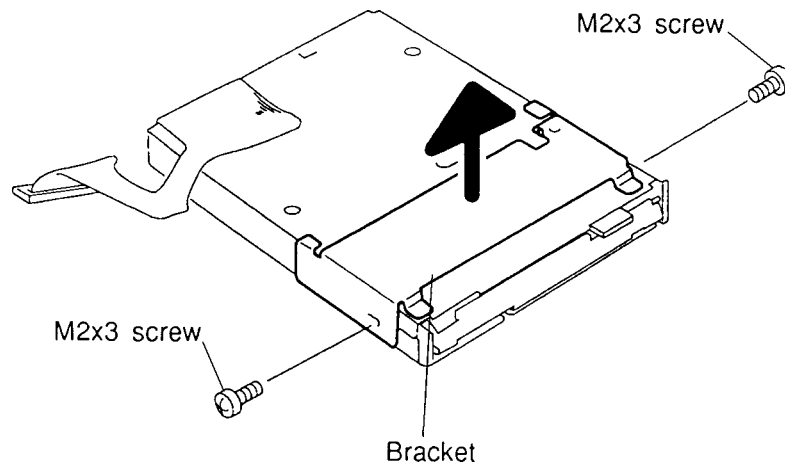

Figure 4-24 Removing the FDD Bracket
4. Remove the **two M2x3 black screws** securing the **FDD bracket** (Figure 4-24).
1. Place the **FDD bracket** on the FDD and secure it with the **two M2x3 black screws** (Figure 4-24).